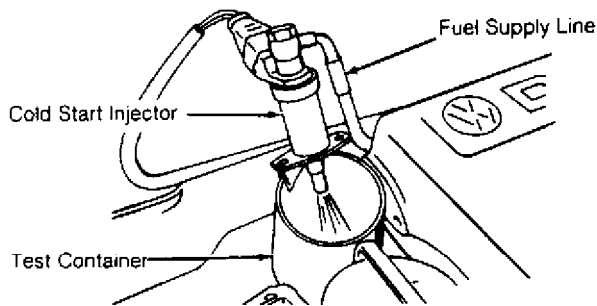

Fig. 8: Testing Typical Cold Start Valve
2) Remove ignition coil secondary wire and jumper to ground. Attach metal housing of cold start valve to ground. Direct cold start valve nozzle into a clean container. See Fig. 8. Have assistant turn ignition switch to START position, while observing cold start valve spray pattern.